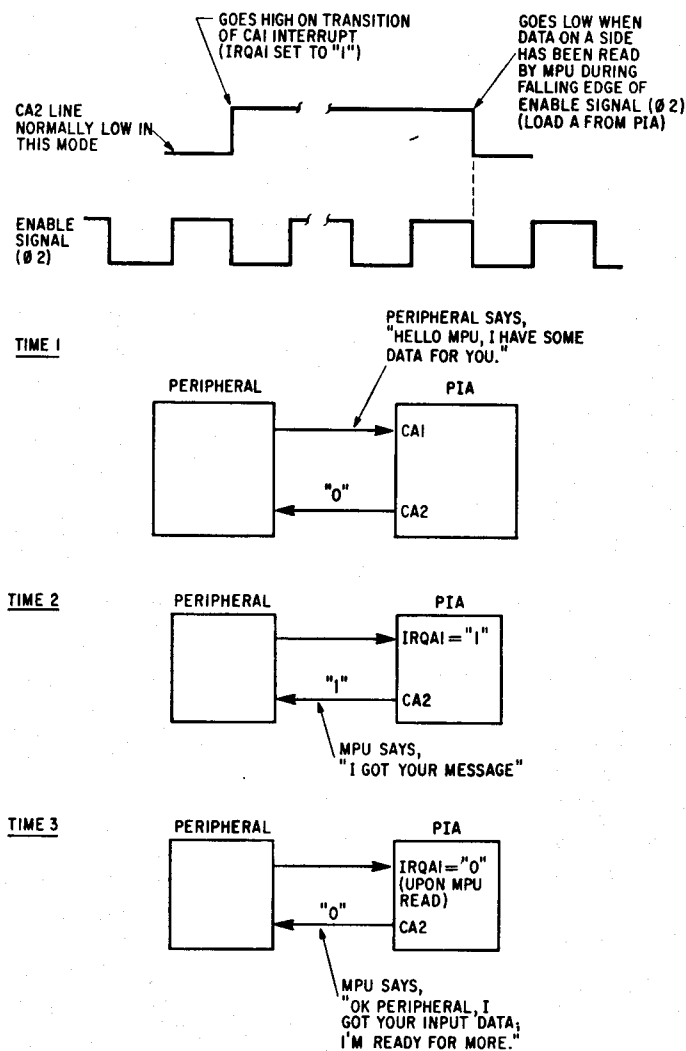

Fig. 9.17 Handshake mode
1. **Bits 5, 4, and 3 of CRA = 100 (Handshake Mode)** The handshake mode is used when a peripheral is transmitting data to the MPU. The peripheral must tell the MPU when it has some data, and the MPU must tell the peripheral when it has taken the data (see Fig. 9-17). The typical sequence is as follows: